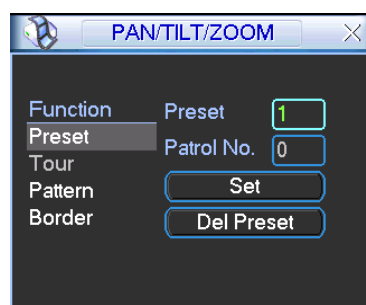

Figure 4-34
In Figure 4-31, please click the “set” button. The interface is shown as below. See Figure 4-34.
- The following setups are usually operated in theFigure 4-31,Figure 4-34 andFigure 4-35 .
In Figure 4-34., input patrol (tour) number in the No. blank and click patrol button
In Figure 4-34, click pattern button and then click “begin” button. The interface is shown as in
In Figure 4-34, click border button. The interface is shown as in Figure 4-